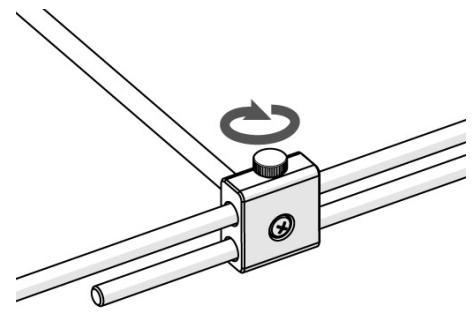

Figure 9. Thumbscrew
- Step 6.** Secure the cable lacing bar into place by tightening the thumbscrews found on the top of the adjustment blocks (see Figure 9).